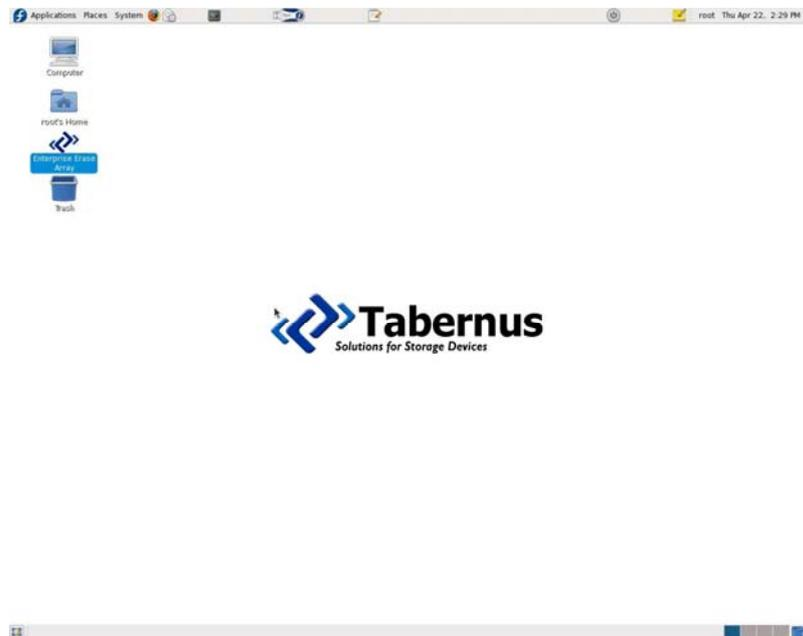

Figure 3.1 – Main Desktop Screen
3.5 Once the appliance has been powered on and the Linux software has booted, the main desktop screen will appear on the monitor. Figure 3.1 below shows the main desktop screen.